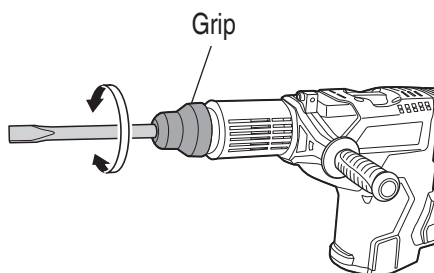

Fig. 12
- (b) Turn the grip or the tool as illustrated in Fig. 12 and fix the tool to the desired working direction.
- (c) Switch the selector lever to “hammering” according to the procedures mentioned in the above item (1) and secure the position of the tool.